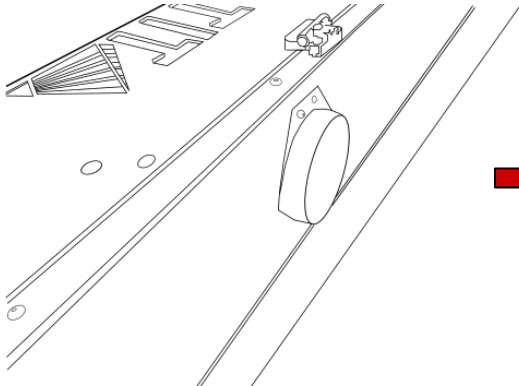

Fig. 14
1. **Install Exhaust Flange:** Use the provided flange bolts to install the ducting collar on the rear of the machine (as shown in Fig. 14).